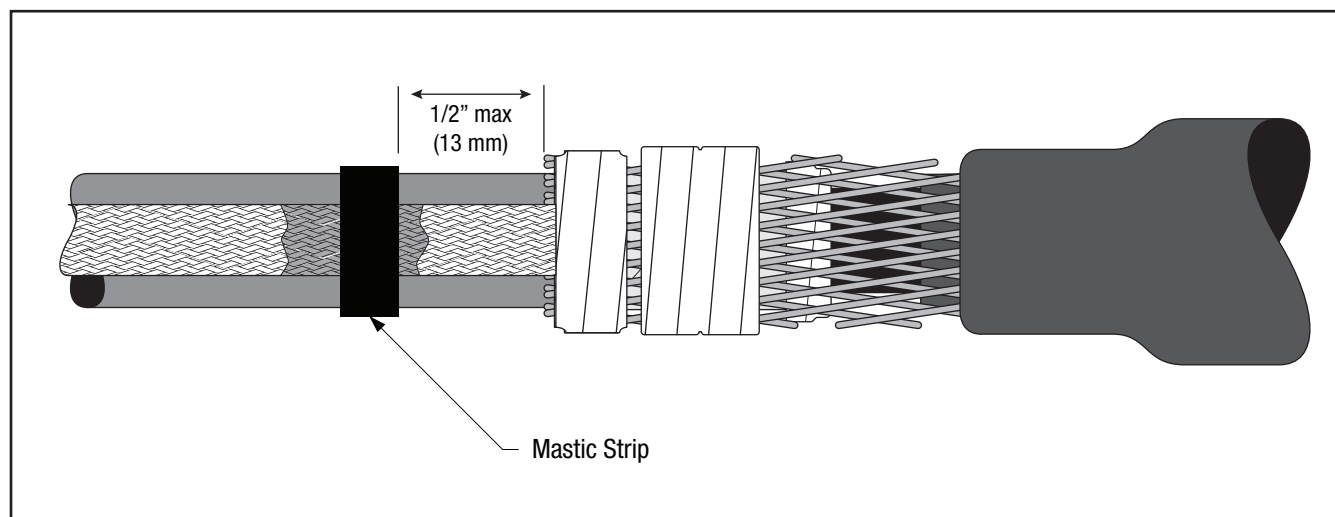

Figure 20
- 6.5 Place another mastic strip over the solder blocks. Press the mastic strips around the solder blocks and onto the cable jacket. If tails overlap at the solder blocks, place a piece of mastic between them (*Figure 20*).